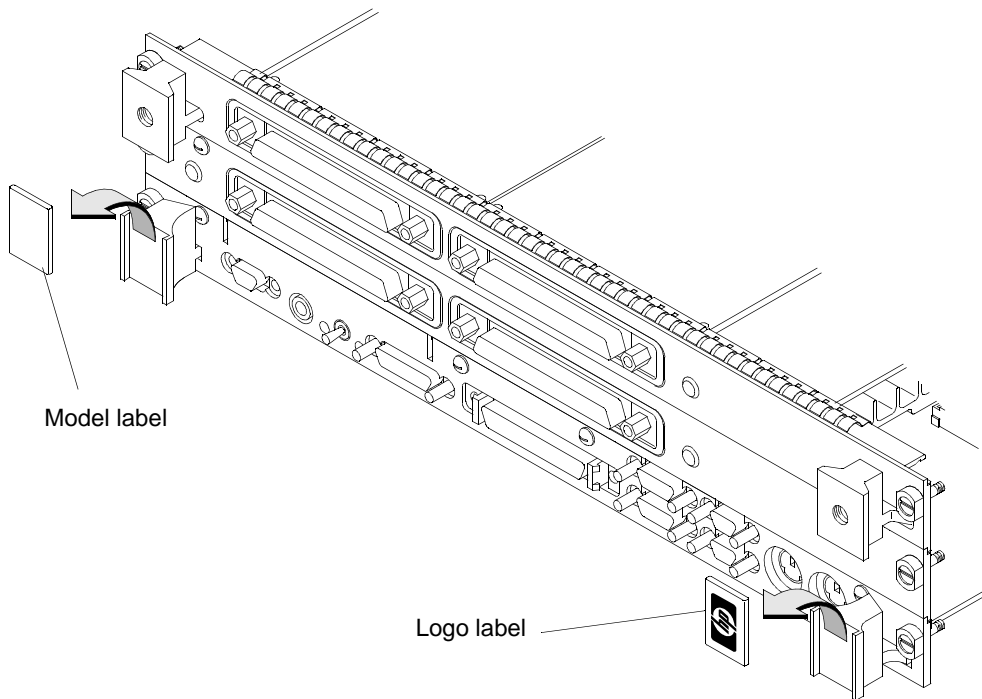

Figure 4-9 **Removing Ejector Handle Labels**
- a** Remove the logo and model labels from the ejector handles on your board computer, as shown in Figure 4-9.